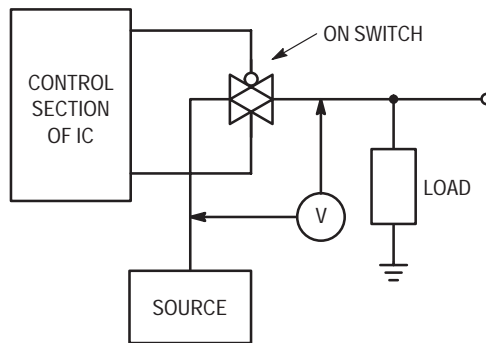

Figure 14.  $\Delta V$  Across Switch
5. For voltage drops across the switch ( $\Delta V_{switch}$ ) > 600 mV (> 300 mV at high temperature), excessive  $V_{DD}$  current may be drawn; i.e., the current out of the switch may contain both  $V_{DD}$  and switch input components. The reliability of the device will be unaffected unless the Maximum Ratings are exceeded. (See first page of this data sheet.) Reference Figure 14.